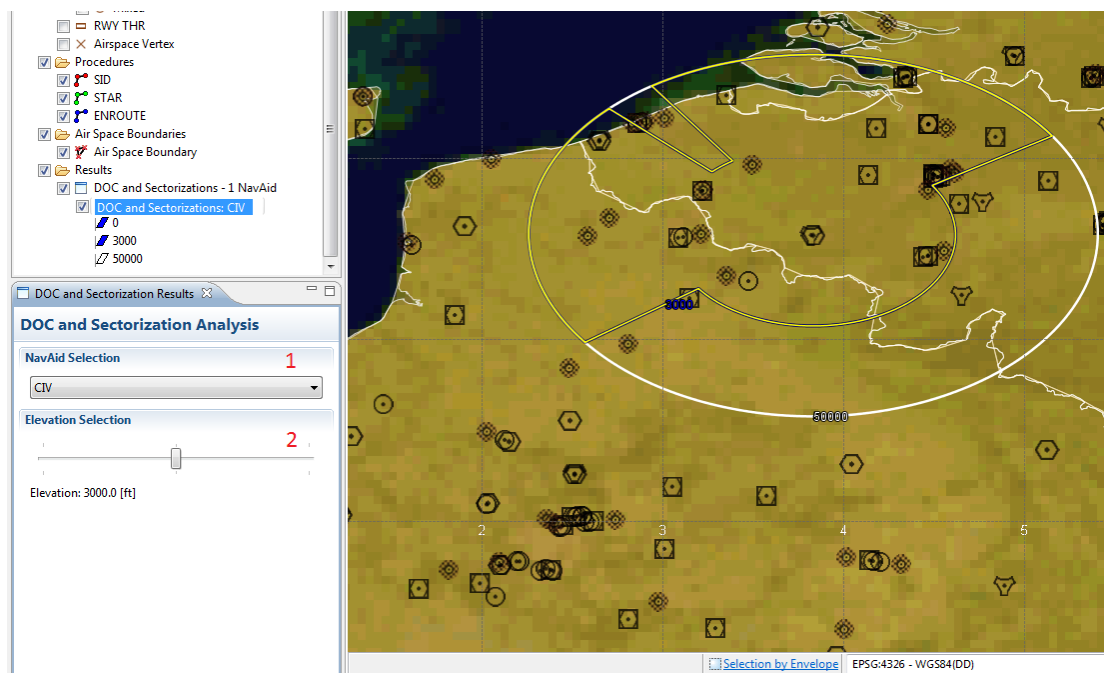

Figure 88: DOC and Sectorization Analysis
Selecting this tool will open another view under the Layer Tree, allowing the user to understand the NavAid's Sectorizations, filtered by its altitudes (Figure 88). A **NavAid Combobox** (1) will be presented, allowing the selection of the NavAid (or NavAids, if the selection contains multiple NavAids), giving the possibility to either investigate each selected NavAid, or all of them. Also, an **Altitude Slider** (2) will be present, giving the user the possibility to change between a range of altitudes (which, as explained before, are defined by the NavAid's Sectorizations).